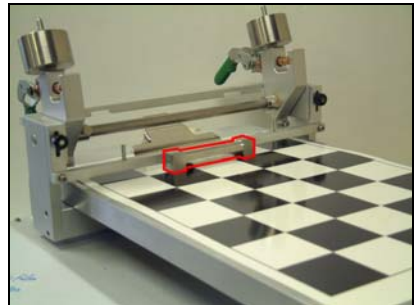

Figure 11. Applicator in position on substrate
4. Place applicator onto substrate in front of pushing bar (Figure 11).